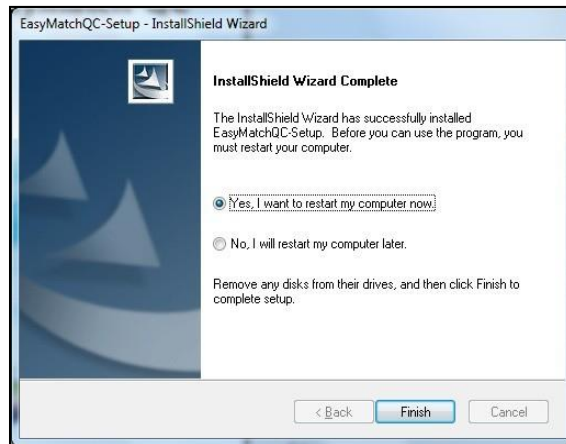

Figure 6. Completed Install
- a. If the user has a HunterLab USB hardware key, then it can be used with a new sensor on the same computer. Return to Install the Software, Step 5 (Figure 6) and select the Sentinel Key to continue.